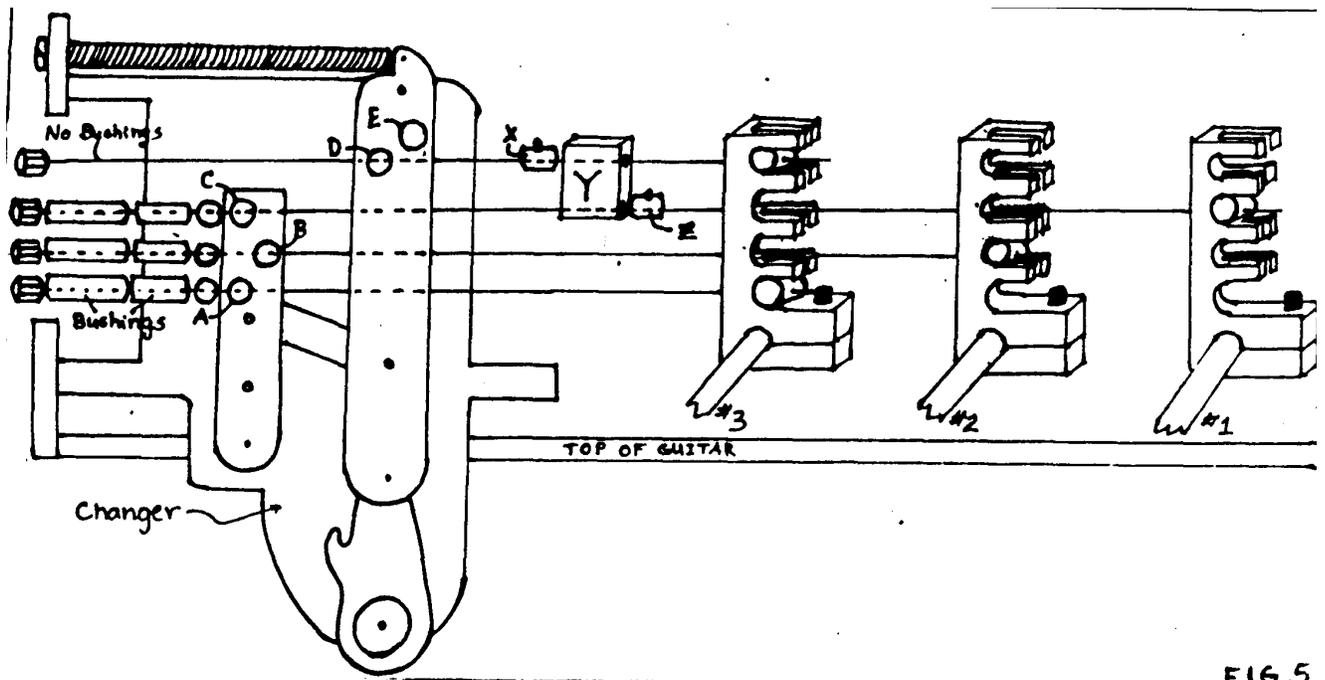

FIG. 5
The Sierra changer is an all-pull triple raise/double lower system. This means that any string can be raised 3 separate times and lowered 2 times. To accommodate the players with more complex tuning specs, we offer additional raise-and-lower capabilities. By means of a "tandem" system the Sierra can easily achieve these multi-change situations and still be tunable at the endplate. In fig. 5, you can see that the two raises are utilizing shafts #1 and #2, E to F and E to F#. To get another raise, E to F# again, a rod with no bushings is threaded through a bell crank in position D. On it is a collar with set screws (X) and a two holed slide block (Y). The rod on #1 passes through (Y) with a collar (Z) which is tightened on the pull rod ahead of the slide block (Y). As #3 is moved, its collar moves the slide block which contacts the collar on #1. Since #3 has no bushings, it will not affect the changer; #3 works directly on rod #1, which in turn will affect the changer.